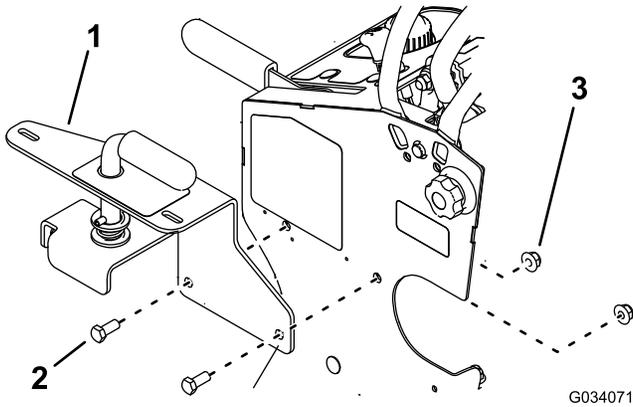

Figure 4
3. Install the handle assembly to the machine using 2 bolts and 2 nuts as shown in Figure 4.